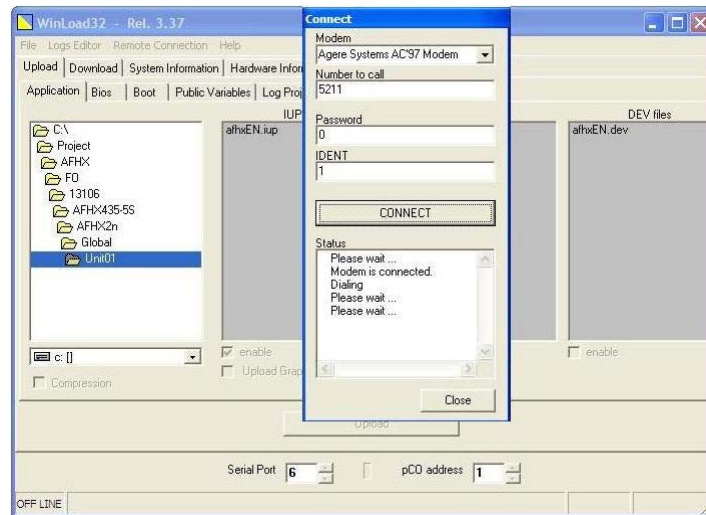

Figure 6.2.3
- iv. A "Connect" window will pop up. Select modem at key number to call. "Password" is refer to modem password which has been set in the controller. "IDENT" refer to "IDENT" setting in the controller. Click on "CONNECT" to start dialing to the unit. (Figure 6.2.3)